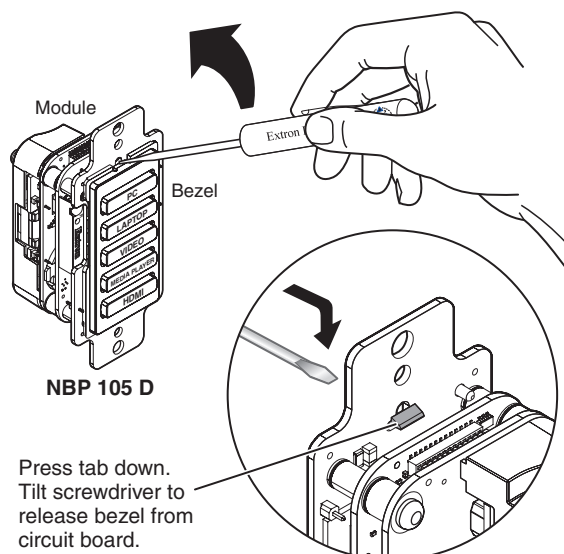

Figure 10. Using a Screwdriver to Release the Bezel Tabs, Rear View
- a. Insert the tip of a small, flat-bladed screwdriver (such as an Extron Tweeker) through one of the slots at the top or bottom of an NBP, as shown in figure 10 at right.